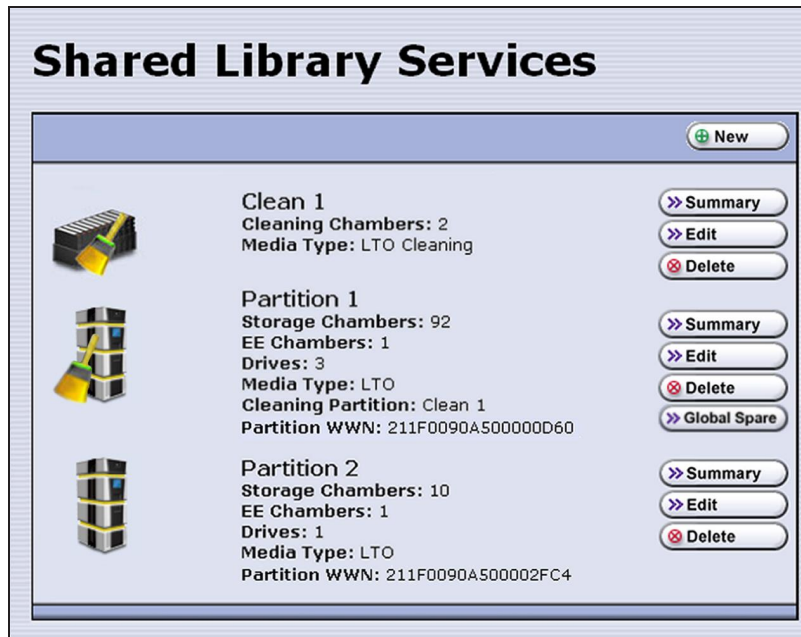

Figure 127 The Shared Library Services showing a cleaning partition and storage partitions.
- If you assigned a cleaning partition to the storage partition, the partition icon changes as shown in Figure 127.